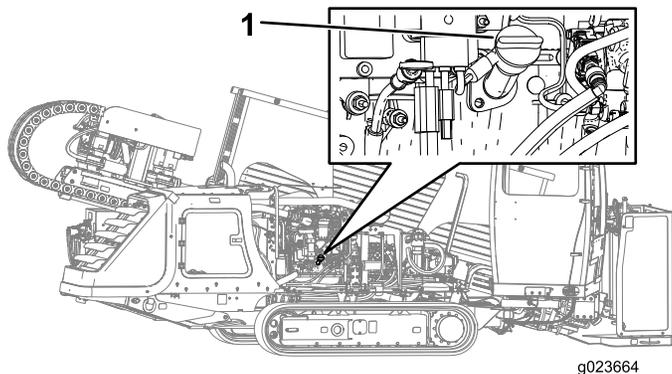

Figure 89
- A. Remove the fill cap (Figure 89) and add oil until the level reaches the High mark. **Do not overfill.**